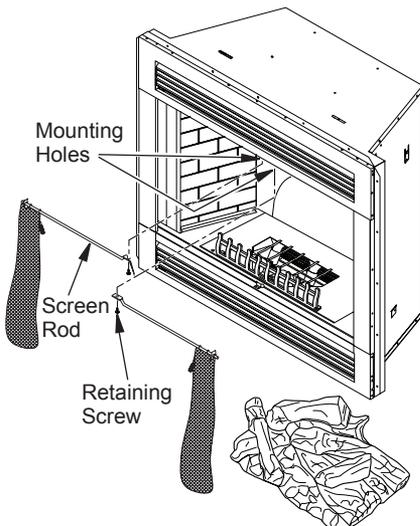

Figure 15 - Removing Screen/Rod Assembly
2. Remove each retaining screw holding screen rods and pull entire screen and rod assembly out of locating hole on inside top edge of firebox (see Figure 15).